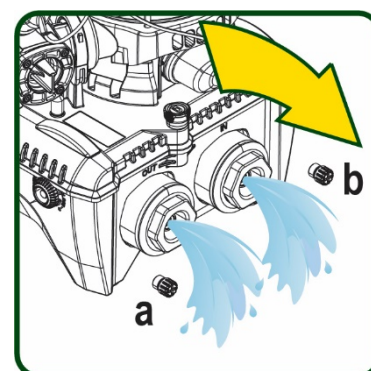

Figure 18
5. remove the two drainage caps on the dock and let out the water inside (about 11 litres); Fig.18